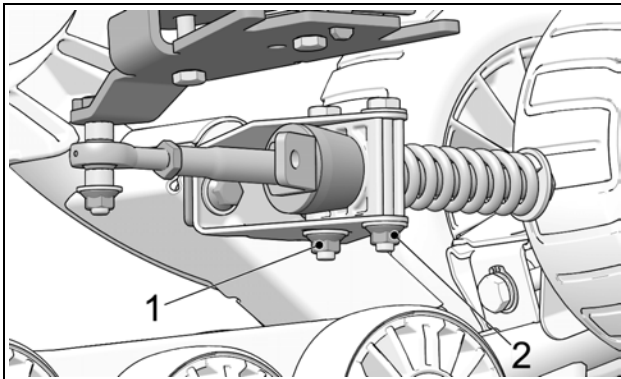

Figure 9
- Re-tighten anti-rotation bracket bolts (1) and (2) to 50 N•m [37 lb-ft] of torque. See Figure 9.